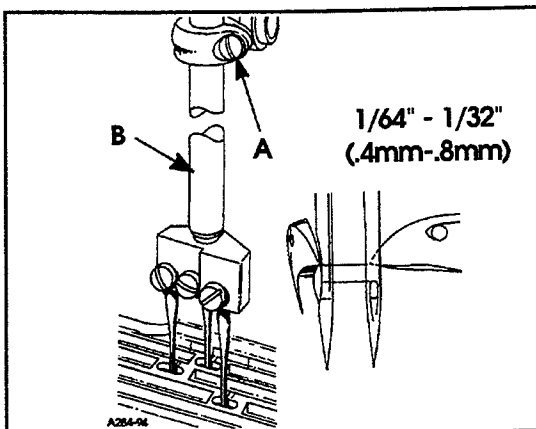

FIG. 9
The height of the needle bar is correct when the top of the needle eye is $1/64''$ to $1/32''$ (0.4mm - 0.8mm) below the underside of the looper, with the looper point even with the right side of the needle. To make adjustment loosen screw (A, Fig. 9) and move needle bar (B) as required to attain dimension.